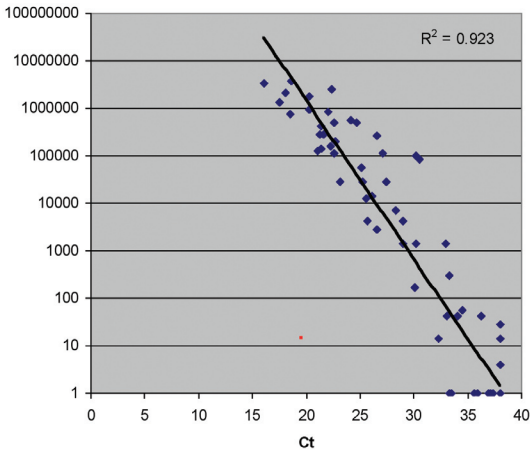

Figure 2. Correlation between the average Ct value of the DNA Test result and the log of the cfu/g (n=77).
In addition, a subset of seventy-seven (77) samples from the above study was cultured by serial dilution to obtain highly accurate estimates of bacterial counts, resulting in values between 0 and 3.6 million cfu/gram. Plotting the Ct value of the DNA Test against the log of the cfu/gram gave a correlation of $R^2 = 0.923$ (Figure 2).